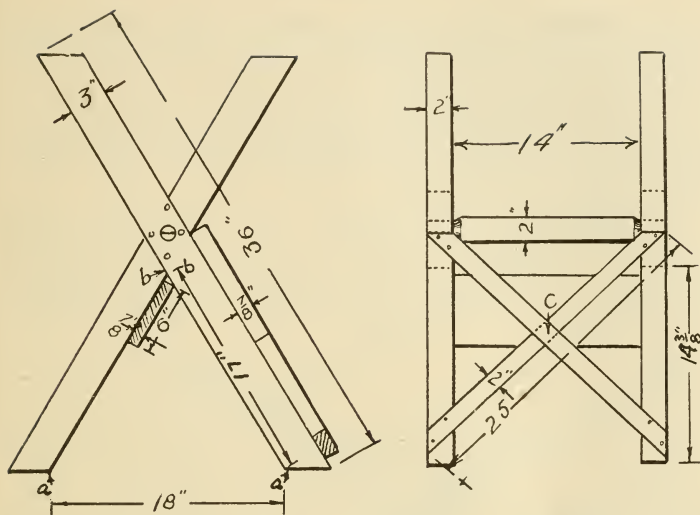

FIG. 29.—WORKING DRAWING OF SAWBUCK.
9. **Laying out the angles of the halved joint.** — Measure up from points *a, a*, Fig. 29, on each leg 17" to points *b, b*, and mark; now lay one leg over the other so the points *b, b* touch each other, and spread the lower ends until the points *a, a* are 18" apart; hold in this position and adjust the bevel square so the beam lies on one leg and the blade along the other leg. Tighten the set screw, and, removing the leg, line across at this point on both legs, but on opposite sides. In order to locate the other point it will be necessary to measure on a
17. **Laying out the braces.** — Lay the two cross braces in place on the legs of the sawbuck, as in the drawing, and set the bevel square for the halved joint *c*, Fig. 29, following the directions given in Operations 9, 10, 11, 12. The 6" brace on the underside of the legs opposite is fastened on with screws as are the others.